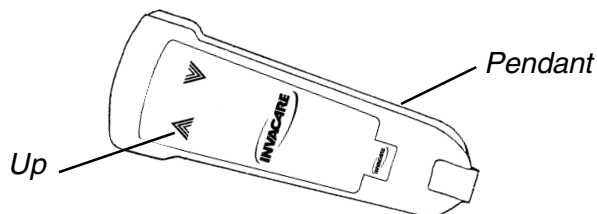

FIGURE 16 - RAISING THE BATH LIFT
1. Raise the bath lift all the way up by pressing the UP (↑) button on the pendant (FIGURE 16).